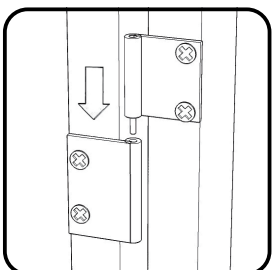

Figure 3
Attach Doors (H) and (I) to unit by sliding door hinges into side panel hinges. (See Figure 3)